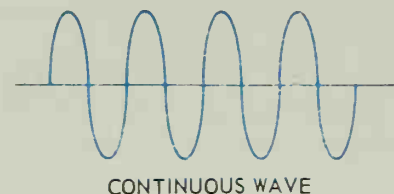

Fig. 16-7. A continuous wave of constant amplitude and frequency.
One might conclude that if a little bit of energy were added to the tuned oscillating circuit at the proper time, it would no longer decay to zero, but would continue to oscillate. This is quite correct. Then, the output of the circuit would appear as a CONTINUOUS WAVE (CW), as illustrated in Fig. 16-7.